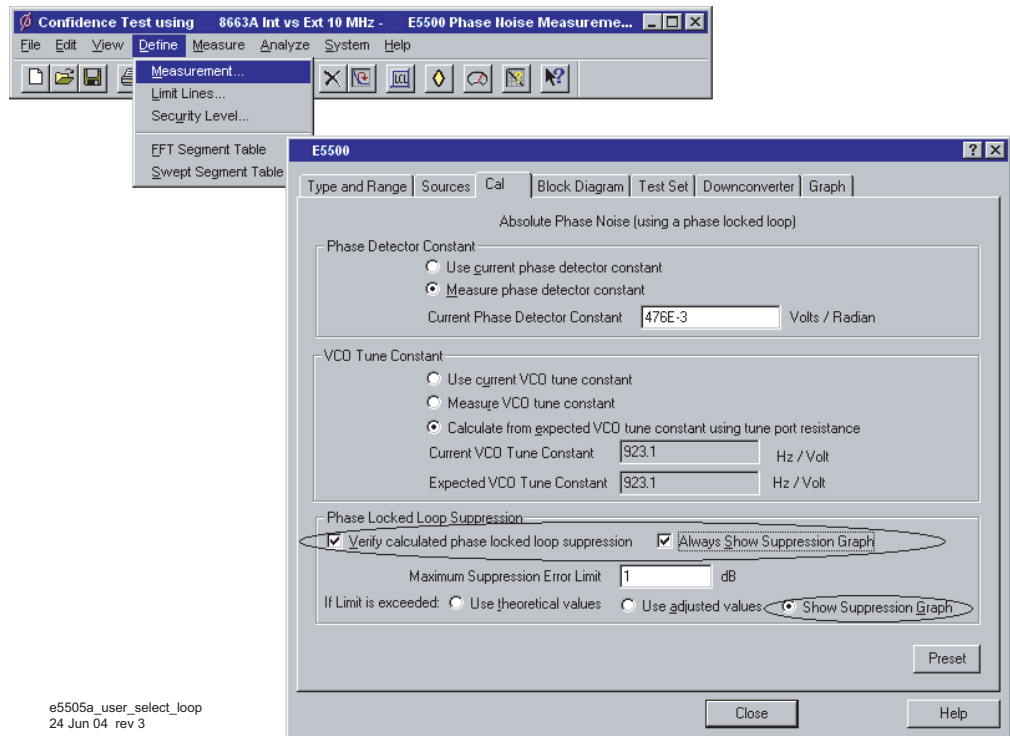

Figure 124 Selecting Loop suppression verification
- 1 Using Figure 124 on page 180 as a guide, navigate to the **Cal** tab.